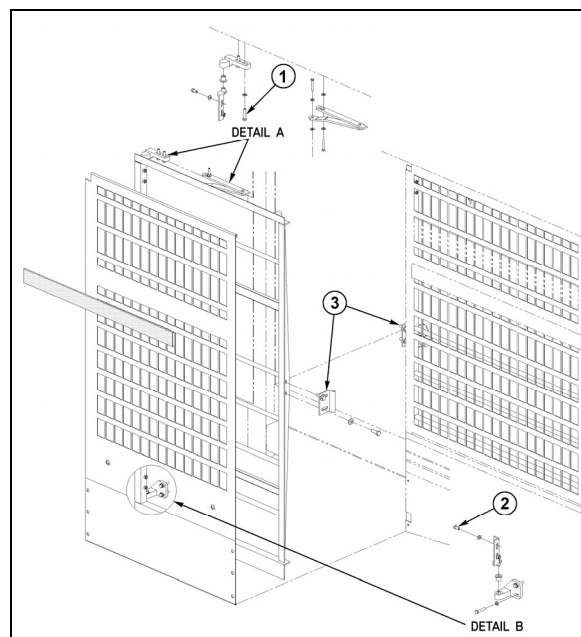

FIGURE 32: SMALL RADIATOR DOOR
1. Loosen the bolts, (1, Fig. 32) holding the hinge to the vehicle structure to shift the door "IN or OUT" and "UP or DOWN".
2. Loosening the bolts (2, Fig. 32) allows the door to be shifted "LEFT or RIGHT" and "UP or DOWN".
To adjust the latch mechanism (3, Fig. 32) and the striker pin: